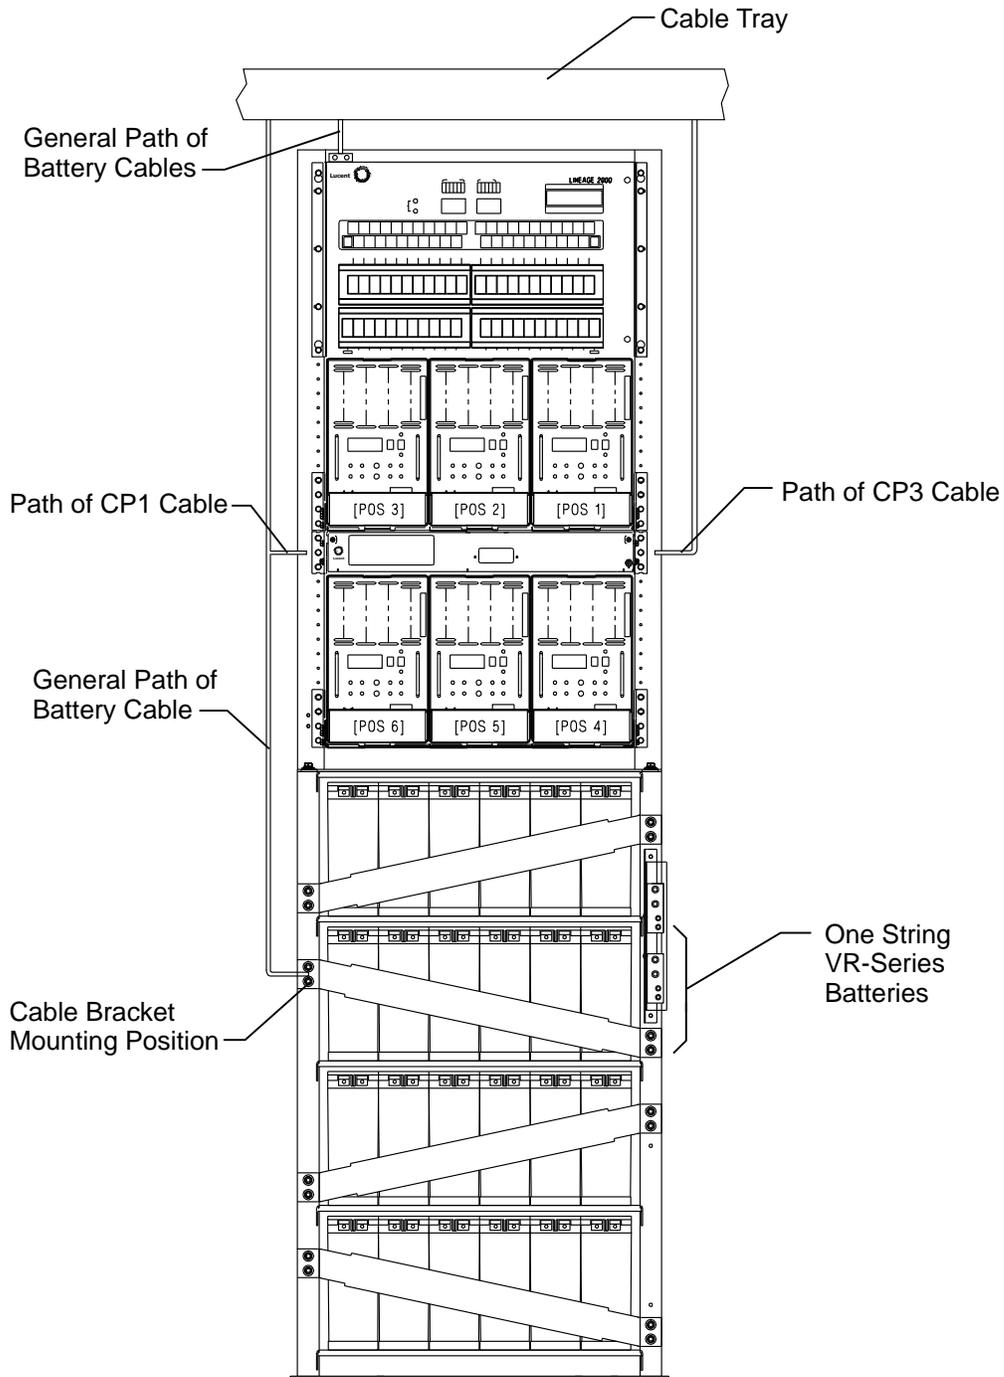
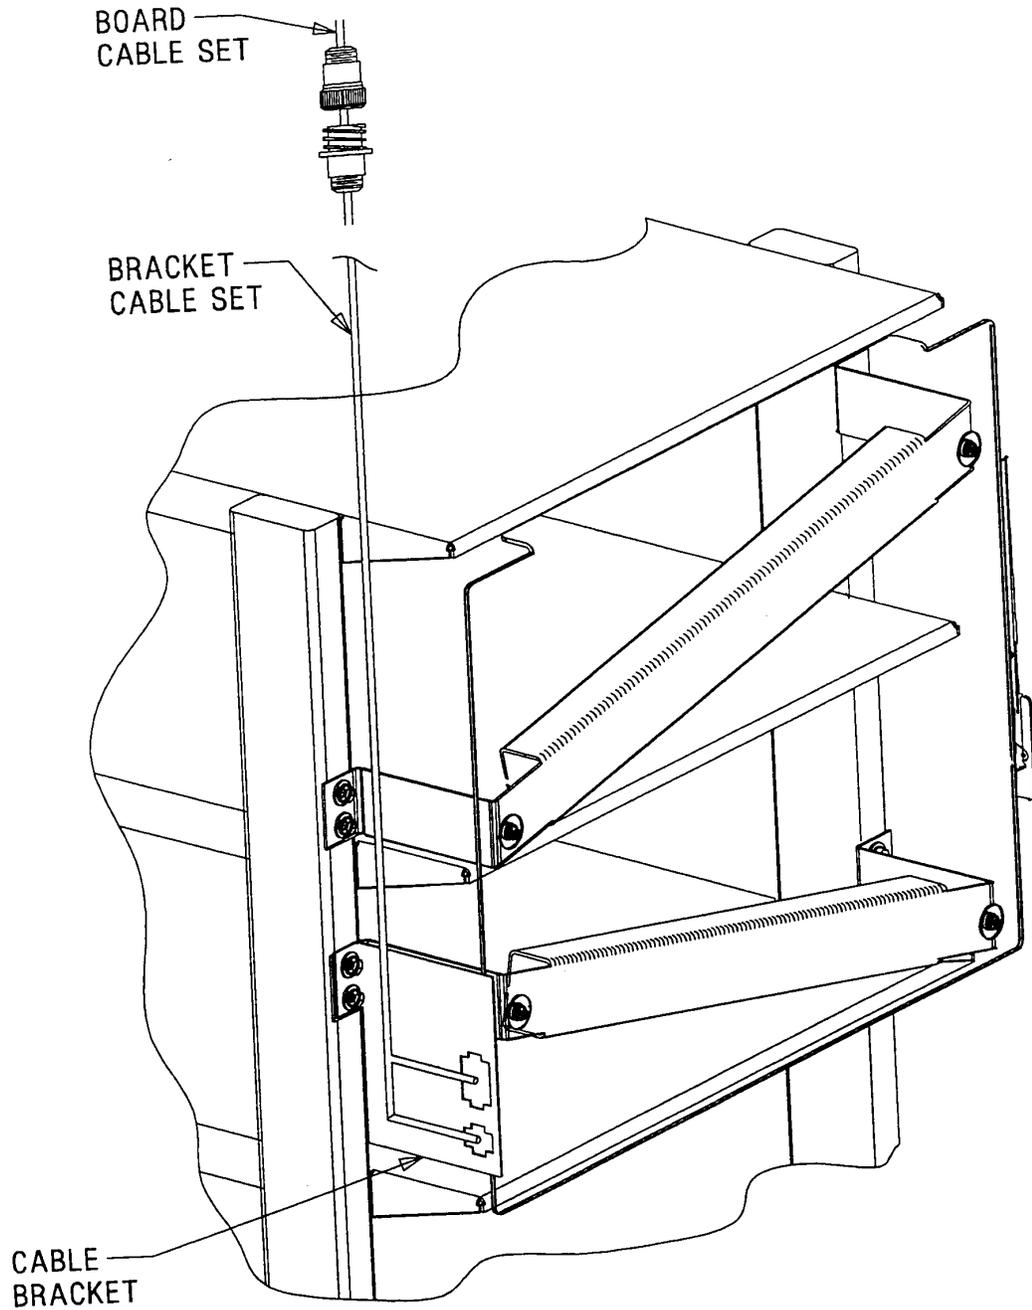

Figure 3-10: Cable Bracket Positioning and Cable Routing
Figure 3-11: Bracket Cable Set Mounting
1. Bolt cable bracket on top of retainer assembly located second from the top on the left side of the battery stand (see Figure 3-10).
2. Mount bracket cable set in appropriate cutouts on cable bracket (Figure 3-11).
3. Attach board cable set to bracket cable set (Figure 3-11) and route up towards cable tray (Figure 3-10), down through the top of the plant and towards P200 (P201 if installing second battery string).
1. When only CP1 is present in the controller, attach CP1 cable set to P508 on CP5 and route as shown in Figure 3-10. This connection will allow the Battery Management System alarms to cause the appropriate plant alarms. The Battery Management System will generate a Minor Battery Alarm (MNB) if any one of the following Battery Management System alarms are active:
2. Place CP3 cable set near P400 on CP5, but do not connect to CP5 at this time. Route as shown in Figure 3-10.